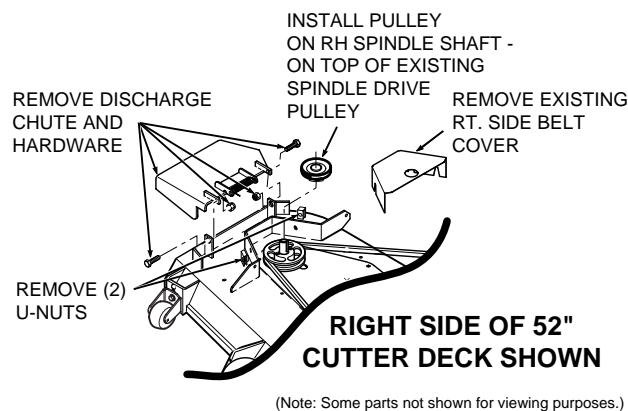

FIGURE 3-1
2. Remove the discharge chute from the cutter deck. See Figure 3-1.
3. Remove the right side belt cover to gain access to the spindle assembly. Remove the u-nuts from the cutter deck bracket. See Figure 3-1.
4. Install the grass catcher pulley onto the spindle assembly. Apply loctite to both pulley setscrews and tighten. See Figure 3-1.